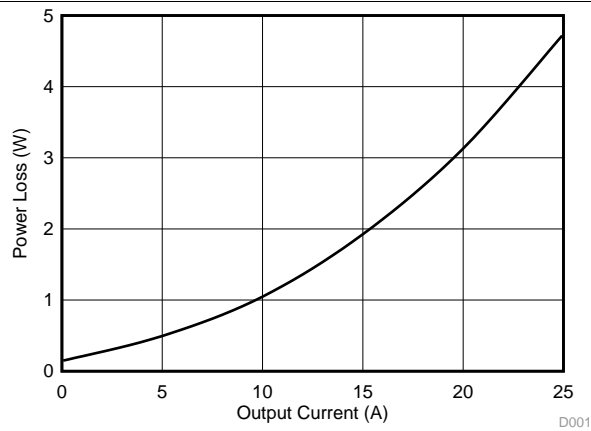
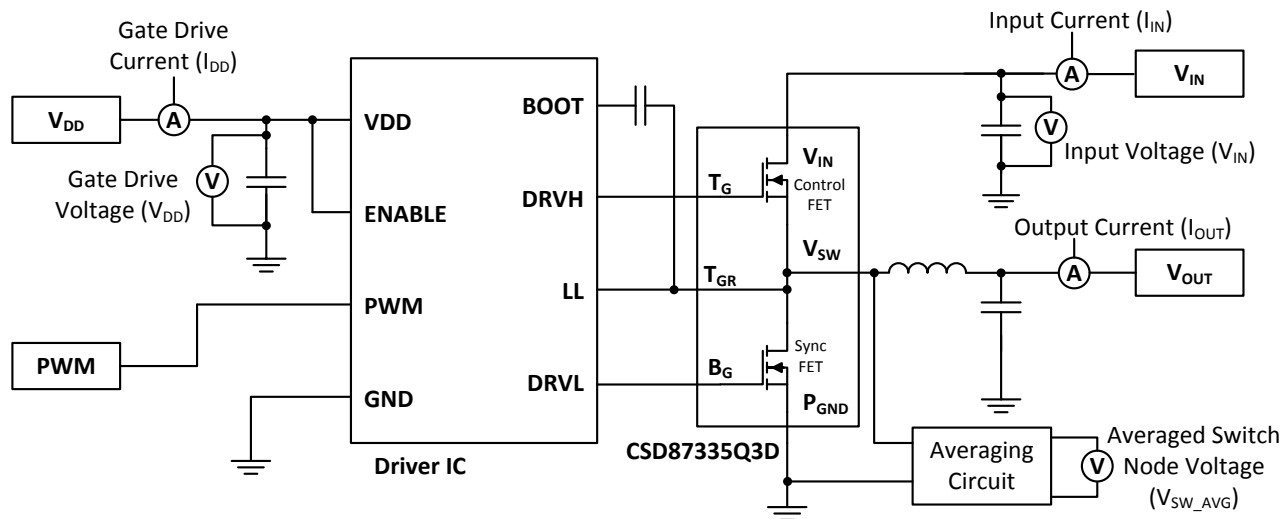

Figure 2. Power Loss vs Output Current
Figure 32. Typical Application
MOSFET centric parameters such as  $R_{DS(ON)}$  and  $Q_{gd}$  are needed to estimate the loss generated by the devices. In an effort to simplify the design process for engineers, Texas Instruments has provided measured power loss performance curves. **Figure 2** plots the power loss of the CSD87335Q3D as a function of load current. This curve is measured by configuring and running the CSD87335Q3D as it would be in the final application (see **Figure 32**). The measured power loss is the CSD87335Q3D loss and consists of both input conversion loss and gate drive loss. **Equation 1** is used to generate the power loss curve.
The power loss curve in **Figure 2** is measured at the maximum recommended junction temperatures of 125°C under isothermal test conditions.
- Power Loss at 15 A = 1.92 W (Figure 2)